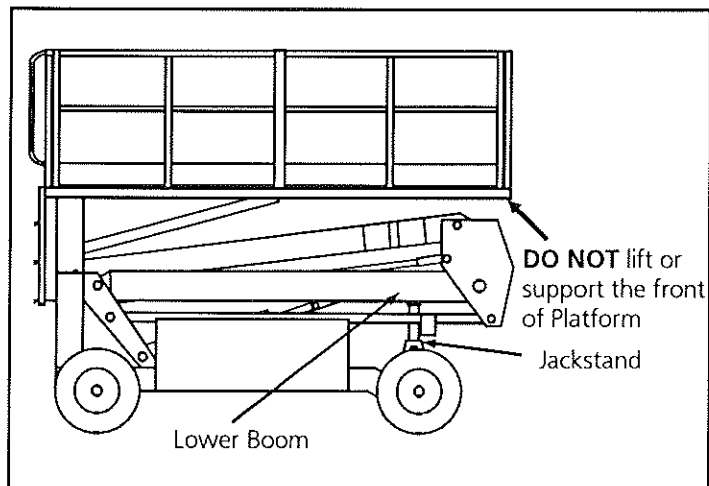

Figure 4-2: Blocking the Elevating Assembly
4.2 Blocking Elevating Assembly (Figure 4-2)